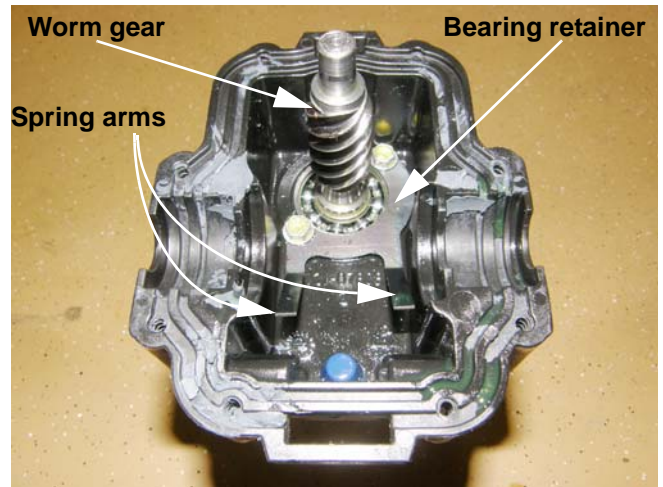

Figure 4.65
4. The retainer for the bearing that supports the worm gear also has two spring arms that drag against the shoulders of the helical gear assembly. See Figure 4.65.